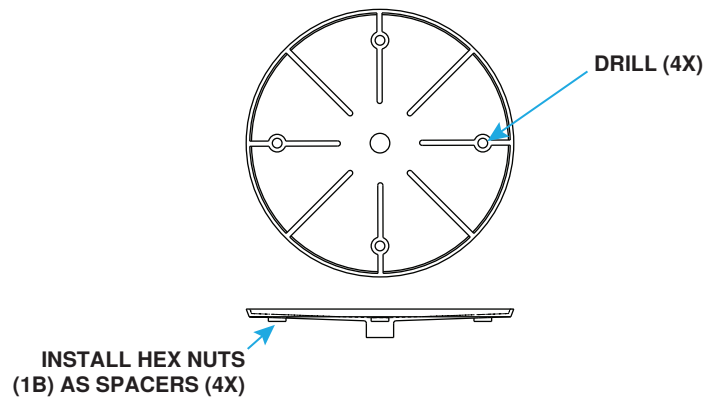

Figure 15. Rain Shield Installation
5. Install rain shield on replacement fan motor (see **Figure 15**):
- b. Thread hex nut (1B)—hand-tight—on each motor (1) casebolt as spacer.